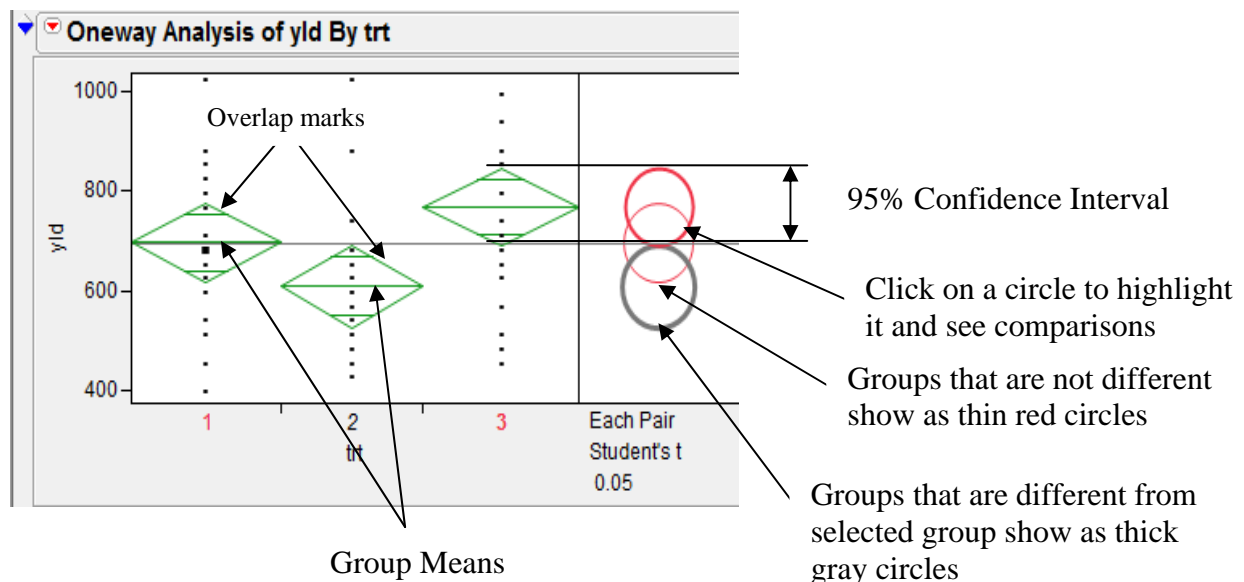

Figure 5.6.1: Visual Comparisons of Group Means
5. A box will pop up with a plot of the data. Click the red triangle on this box and Select **Means/Anova**. This will give the basic ANOVA output. (See Figure 5.6.1 & 5.6.2)